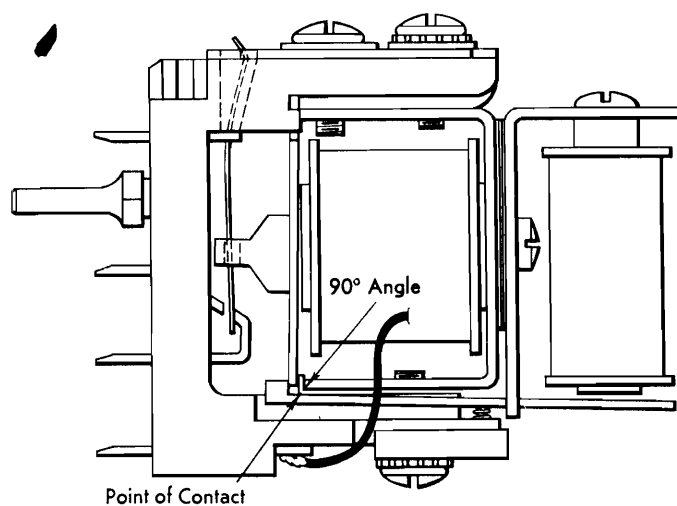

Figure 28. Adjustment 9
9. Figure 28. With the relay armature in the latched position, the point of contact of the latch should be at the 90° angle of the armature residual.